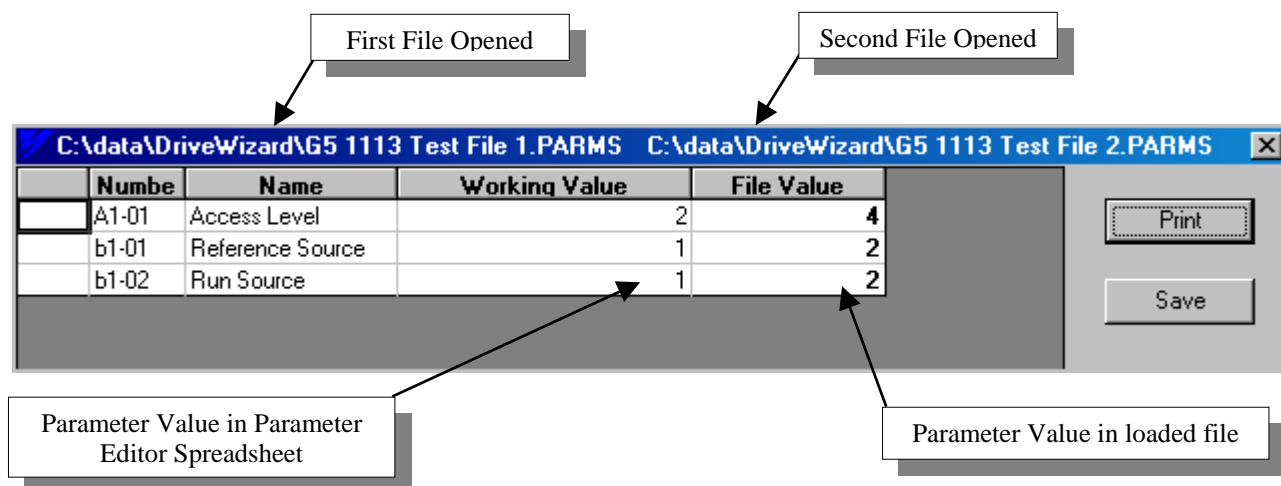

Figure 4.25: Compare Parameter File Screen
4. Once this file is loaded the parameter data in this file is compared to the working values of the Parameter Editor Spreadsheet. When the comparison is complete the window in Figure 4.25 appears.